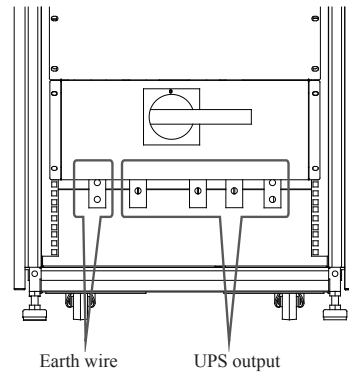

Fig. 5-11
- 3) Remove the front terminal block cover, connect the UPS output wires to the corresponding copper bars according to the marks (the copper bar marks are shown as Fig. 5-11). Prior to the wire connection, make sure earth connection has been done.